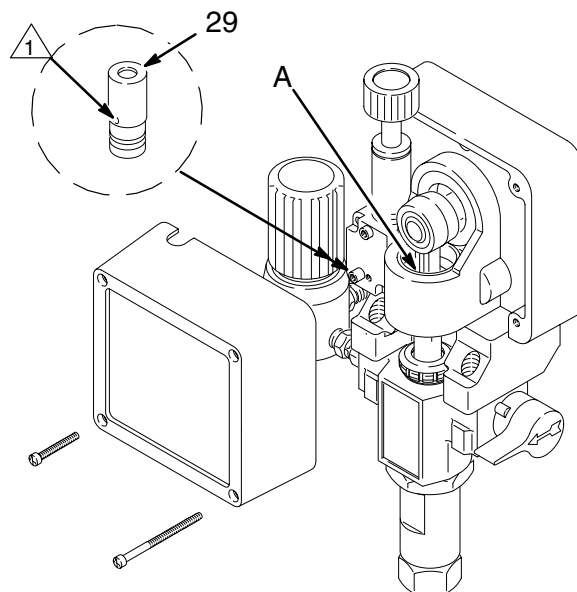

Fig. 11
3. **Periodically clean paint residue from the pressure transducer (29) vent hole area.** See Fig. 11. Replace the transducer when leakage is excessive. See page 27.
4. **Lubricate the bearing housing** after every 100 hours of operation. Remove the front cover. Fill the bearing housing cavity (A) with SAE 10 non-detergent oil. See Fig. 11.